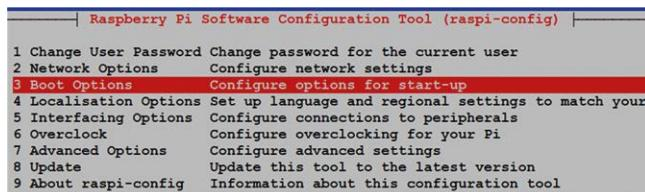

Figure 2.4: Select Boot Options.
- Move down to **Boot Options** and press Enter to select (Figure 2.4)